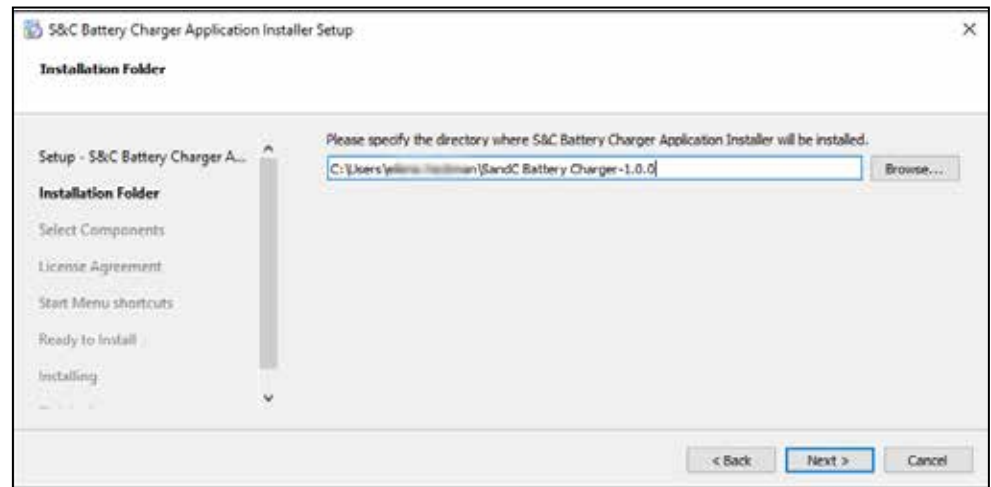

Figure 4. S&C Battery Charger application *Installation Folder* screen.
STEP 3. Specify the directory where the S&C Battery Charger application will be installed. See Figure 4.